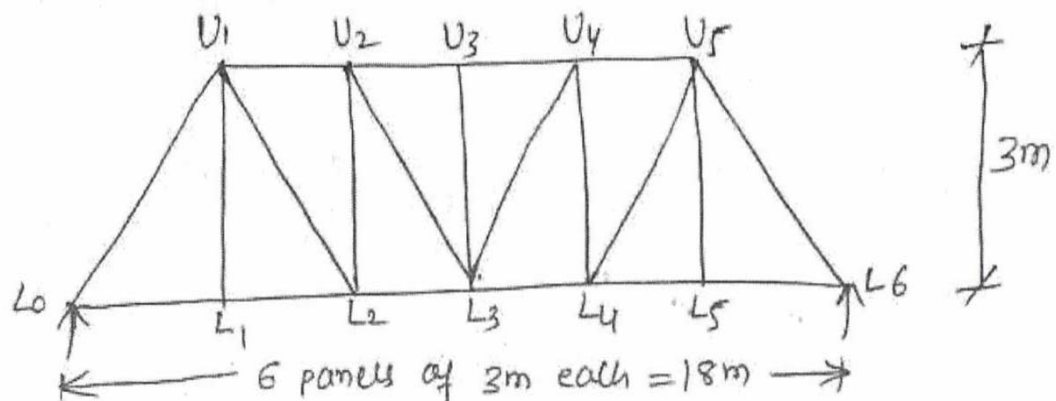

fig.2
- b)** Draw the influence line diagrams for forces in the member U_2L_3 , U_2U_3 and L_2L_3 of the through type bridge truss as shown in fig.2 **[8]**